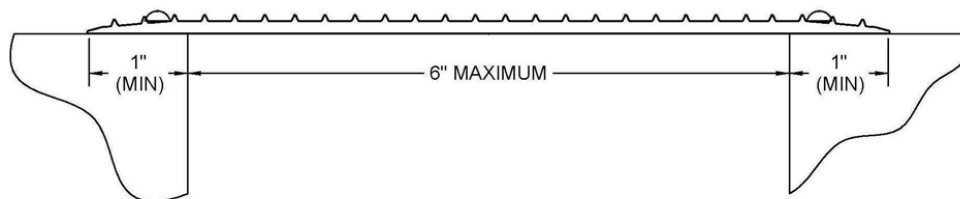

FIG. 7.4
-  Ensure that at least 1" on each of the supporting edges of the plate is supported on a good, sound construction surface that is free from defects (FIG 7.4).